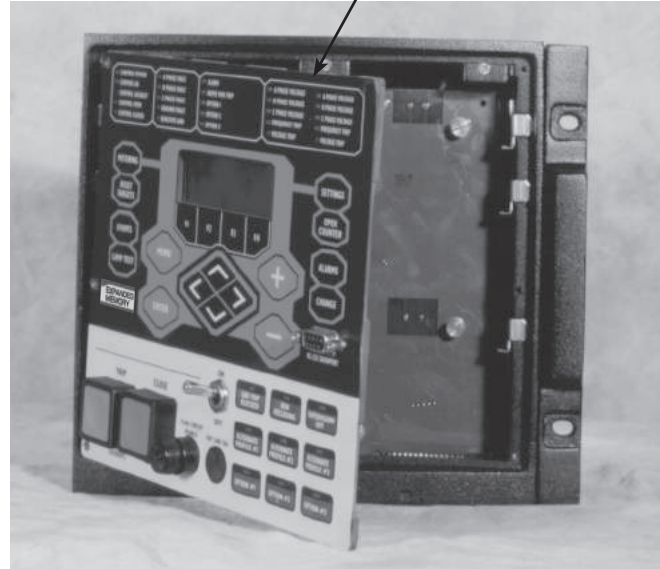
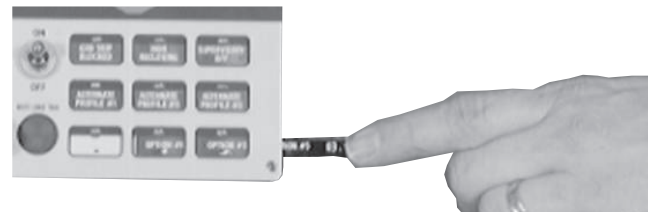

Figure 24. Open front panel. Labels are easily removed from and inserted into the top of the programming panel LED status indicator section
Figure 25. Labels are easily removed from and inserted into the operating panel
3. Pull the right side of the front panel out towards the left (**Figure 24**).
Note: The insert will slide out of the right side of the operating panel (**Figure 25**).
Note: The insert will slide out of the top of the programming panel indicator section (**Figure 24**).
6. Gently push the removable insert from right to left into the right side of the operating panel (**Figure 25**) or down into the programming panel LED indicator section (**Figure 24**).